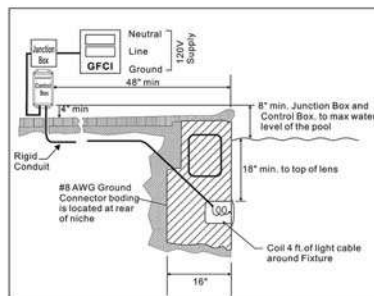

Figure 1
2. The junction box (or, for 12 volt models, the low voltage transformer) must be located at least eight(8) inches above water level, at least four (4) inches above ground level, and at least four (4) feet from the edge of the pool. See Figure 1.
3. The light fixture and all metal items within five(5) feet of the pool must be properly electrically bonded to a reliable point of grounding.
4. The wet niche must be properly installed so that the top edge of the underwater light's lens is at least 18 inches below the surface of the water in the pool. See Figure 1.
5. The wet niche must be properly electrically bonded and grounded via the No. 8 AWG ground connector located at the rear of the niche. See Figure 1.
1. Feed cord through conduit to junction box, leaving at least four (4) feet of cord at the light fixture to coil into the base of the light niche, see Figure 1. The four (4) feet of cord allows the light to be serviced after the pool is filled with water.
2. Cut the cord at the junction box, leaving at least six (6) inches of cord to make connections.
The junction box (or, for 12 volt models, the low voltage transformer) must be located at least eight (8) inches above water level, at least four (4) inches above ground level, and at least four (4) feet from the edge of the pool. See Figure 1.
4. The light fixture and all metal items within five (5) feet of the pool must be properly electrically bonded to a reliable point of grounding.
The wet niche must be properly installed so that the top edge of the underwater light's lens is at least 18 inches below the surface of the water in the pool. See Figure 1. The wet niche must be properly electrically bonded and grounded via the No. 8 AWG ground connector located at the rear of the niche. See Figure 1.
4. Feed cord through conduit to junction box, leaving at least four (4) feet of cord at the light fixture to coil into the base of the light niche, see Figure 1. The four (4) feet of cord allows the light to be serviced after the pool is filled with water.
5. Cut the cord at the junction box, leaving at least six (6) inches of cord to make connections.